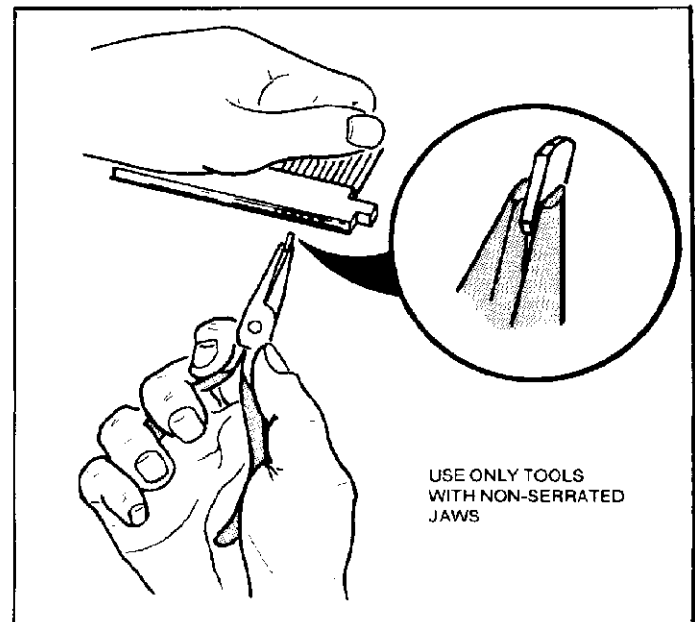

Figure 3
- (a) Insert polarizing key into connector. Non-serrated tweezers or small needlenose pliers may be used for insertion and extraction. Refer to Figure 3.
- (c) To remove key, pull it from the connector using non-serrated tweezers or small needlenose pliers. Refer to Figure 3.